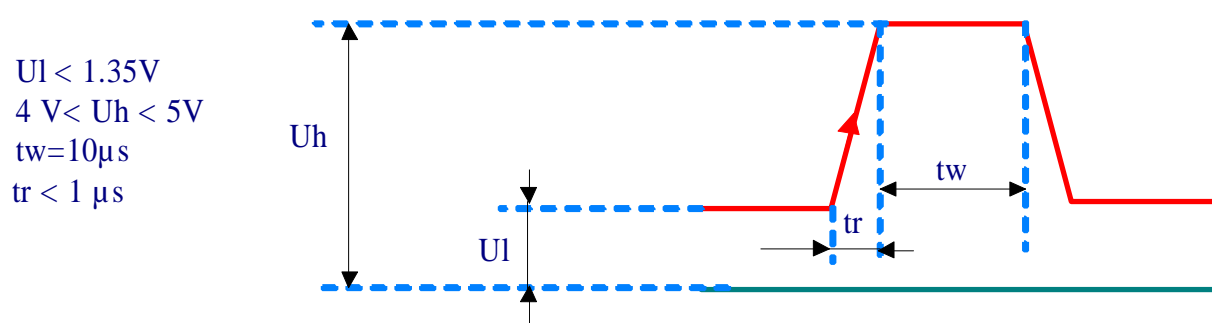

Figure III-3: Characteristics of the input signal for Q-Switch synchronisation
6. **Q-Switch In:** (BNC Connector) Provides external synchronization of the Q-Switch trigger when External Q-Switch Trigger Mode is selected via the Remote Box or serial interface (please refer to IV.1.C.i). The trigger source must be capable of supplying a pulse with the following characteristics: Amplitude: $+5V_{NOM}$ into 50 ohms, Pulsewidth: 10 μ s to 100 μ s. All the features are described on Figure III-3. The minimum Q-Switch trigger delay must be 150 \pm 1 μ sec with respect to the flashlamp trigger (as measured on the Lamp Out Connector). Triggering the Q-Switch with a shorter delay may result in double pulsing of the laser, which damage the optics. Triggering the Q-Switch with a longer delay will attenuate the laser output (see chapter IV.1.b.i).